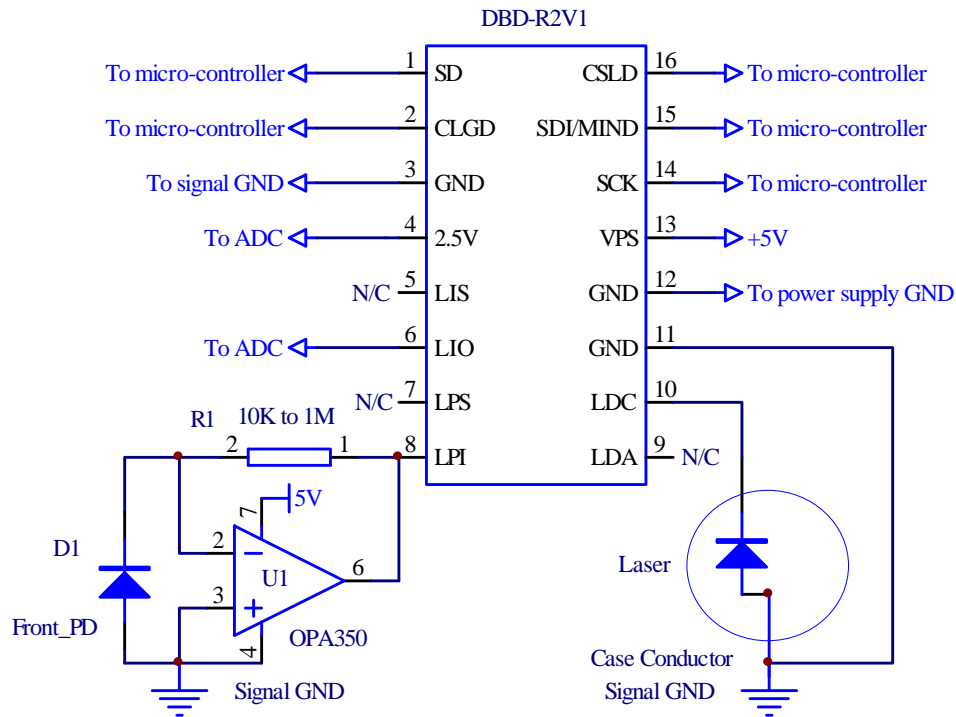

Figure 1B Driving a Common Anode Laser
- Pin 10** LDC, laser diode cathode, analog output. This pin is used to drive a laser of which the anode is connected to the case and the case is connected to the ground. When using this pin, the laser cathode needs to be connected to the ground. See Figure 1B.